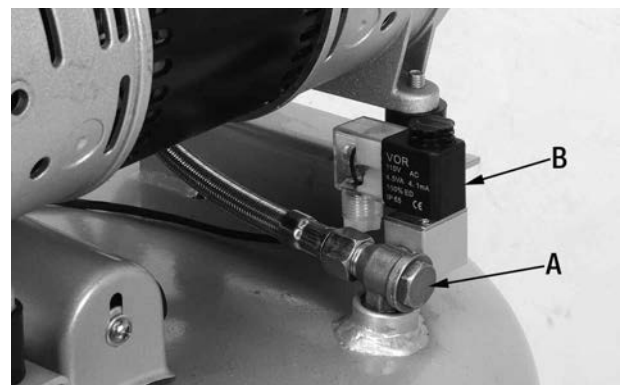

FIGURE 6
CHECK VALVE (A) FIG.6.
ELECTROMAGNETISM UNLOADER VALVE (B) FIG.6.